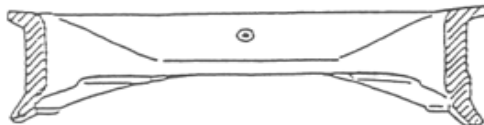
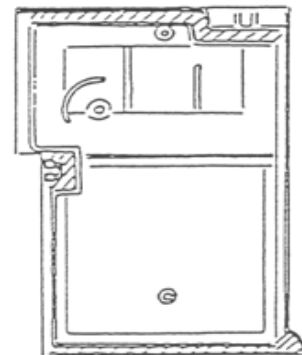

Fig. C-7
Fig. C-5
STEP 11: Cement mating grooves on both ends of the front air manifold as indicated in Figure C-7. Cement channels and mating surfaces on the left stove end as indicated in Figure C-5.